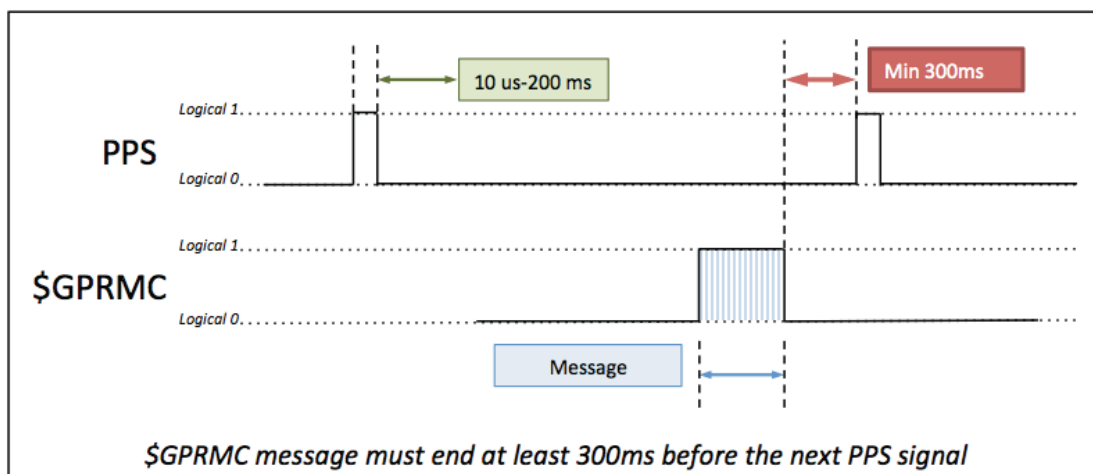

Figure 1
- Polarity of the NMEA message is as shown in Figure 1.